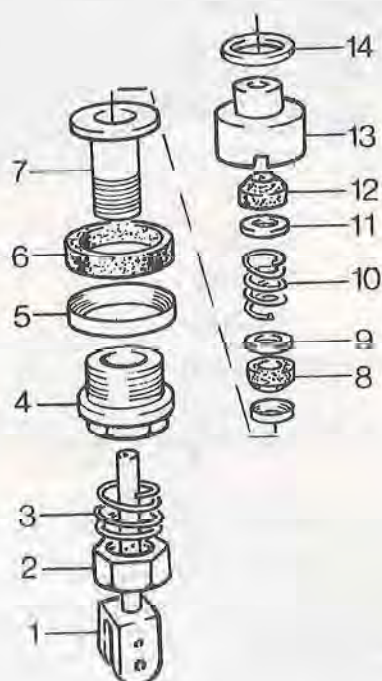

Fig. 5.3 Exploded view of the Standard jet components (Sec 3)
Refer to Fig. 5.3. The jet assembly consists of the jet (1) which slides in upper bearings (13) and lower bearing (7). Jet glands (12), conical washers and washers (11) are fitted to the bearing and loaded to their respective ends by compression spring (10). The assembly is fitted to the unit body with nut (4) sealed with washer (5) and cork washer (6). The bearing is a loose fit in the nut, thus permitting slight radial movement of the jet assembly to centre it, relative to the needle.